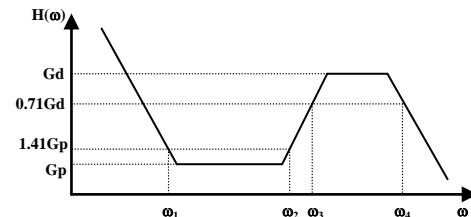

Figure 14. Transfer Function of the Compensation Network
The transfer function of the compensation network, defined as $H(\omega) = \text{IDR}(\omega) / \text{TMS}(\omega)$, is shown in Figure 14.
- d. $C_D \times R_I$ determines the corner frequency, $\omega_2 = 1/(C_D \times R_I)$, where the differential component starts picking up (see Figure 14), as the frequency goes up.
h. The evaluation schematic is given in Figure 14.